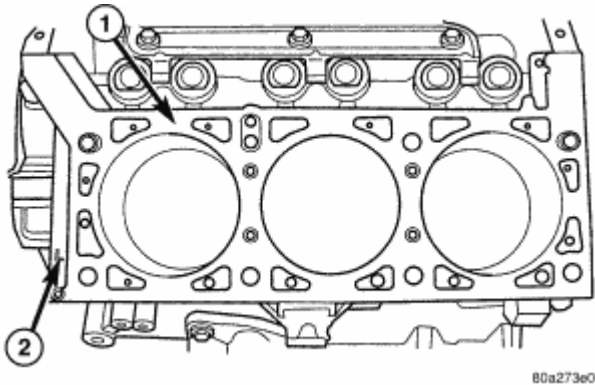

Fig. 73: Cylinder Head Gasket
2. Position new gasket(s) on engine block. The right bank gasket is identified with a "R" stamped in the exposed area of the gasket also, but is located at the rear of the engine. See **Fig. 73**.